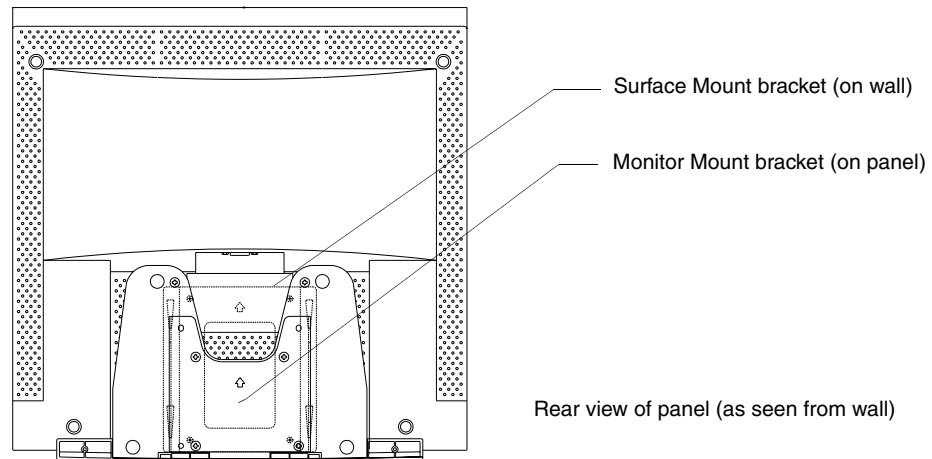

FIG. 15 Rear of VTM-D15/AB shown with attached VTM-WMB bracket
- The VTM-D15/AB panel should now be mounted on the surface/wall using the secured VTM-WMB bracket as shown in FIG. 15.